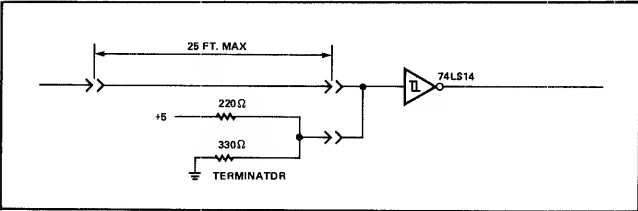

Figure 3-29. Single End Line Receiver
3.19.6 – DRIVE SELECT 1-4. These low-active signals (decoded) enable drive response. No readying, writing, register selection, or command response will occur unless the drive is selected. These lines are connected to single-ended receivers, as shown in Figure 3-29. The DC characteristics are listed in Table 3-4. This line should be terminated at the drive end.